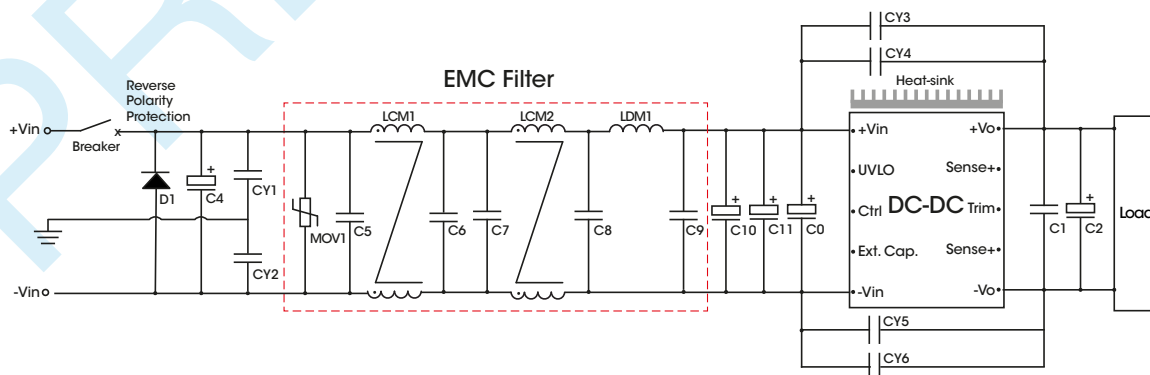

Figure 8.
2. EMC Filter will be provided in a modular form, here is a recommended circuit and parameters, as shown in Fig.8. Users can also build it themselves.
3. The resistance R_{UVLO} sets the undervoltage protection point, for the value of R_{UVLO} , please refer to Fig.8.